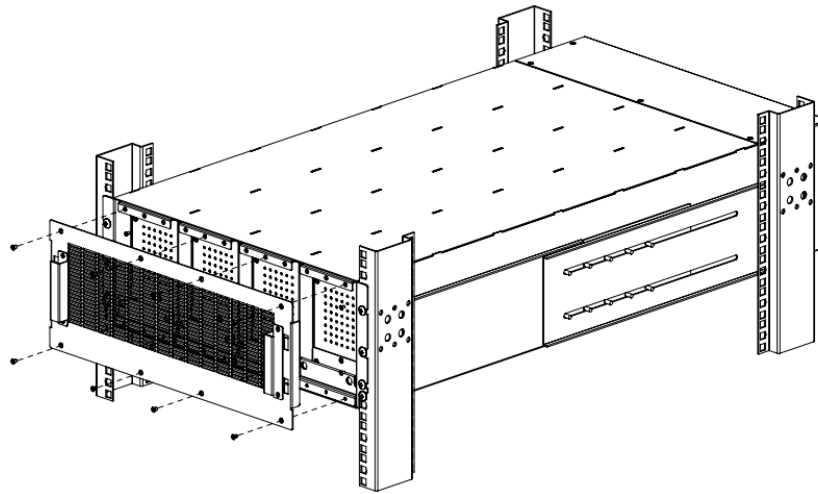

Figure 51: Reinstall the EBP Battery Baffle
52. Install and secure the screws on the battery baffles (see Figure 51).